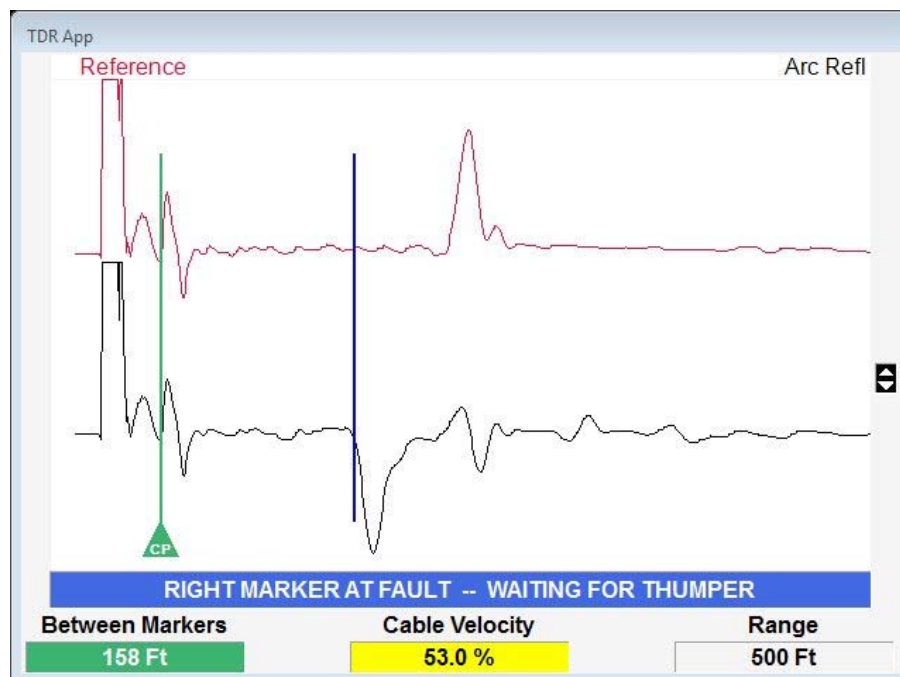

Figure 3
When a “thump” is detected the fault is captured and displayed in the lower half of the screen. If it is a clean trace and shows the typical downward deflection of the fault the operator can push the HOLD key to preserve the “thumped” trace or wait for an update when the thumper is discharged again. (See Figure 3) Pressing the Hold key a second time releases the hold.
- b. Distance to the Fault - If the “auto locate” feature is enabled the distance to the fault is automatically measured by the Radar which sets the Right Marker at the leading edge of the downward deflection. (See Figure 3)